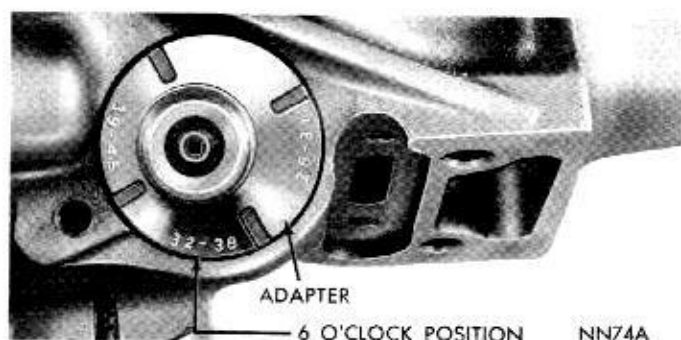
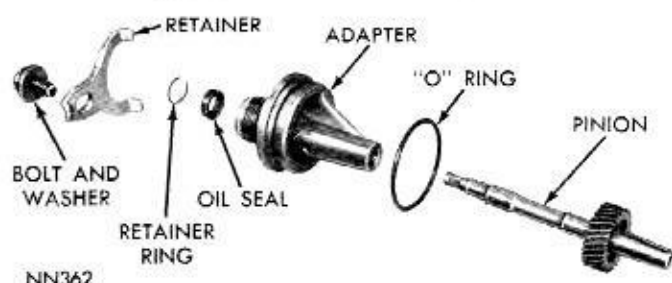
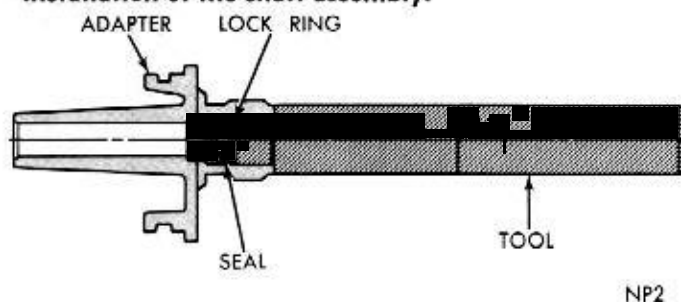

Fig. 14—Speedometer Pinion and Adapter—Installed (Retainer Removed for View)
Fig. 15—Speedometer Drive
Fig. 16—Installing Speedometer Pinion Seal
(1) Remove bolt and retainer securing speedometer pinion adapter in the extension housing (Fig. 14).
(2) With cable housing connected, carefully work adapter and pinion out of the extension housing.
(3) If transmission fluid is found in cable housing, replace seal in the adapter (Fig. 15). Start seal and retainer ring in the adapter, then push them into adapter with Tool C-4004 until tool bottoms (Fig. 16).
(4) Note number of gear teeth and install speedometer pinion gear into adapter (Fig. 15).
(5) Rotate the speedometer pinion gear and adapter assembly so that the number on the adapter, corresponding to the number of teeth on the gear, is in the 6 o'clock position as the assembly is installed (Fig. 14).
(6) Install retainer and bolt, with retainer tangs in adapter positioning slots. Tap adapter firmly into the extension housing and tighten retainer bolt to 100 inch-pounds.
(1) Mark parts for reassembly then disconnect propeller shaft at rear universal joint. Carefully pull shaft assembly out of the extension housing.
(2) Remove speedometer pinion and adapter assembly (Fig. 14). Drain approximately two quarts of fluid from the transmission.
(3) Remove bolts securing extension housing to the crossmember. Raise transmission slightly with service jack Tool C-3203A, then remove center crossmember and support assembly.
(4) Remove extension housing to transmission bolts.